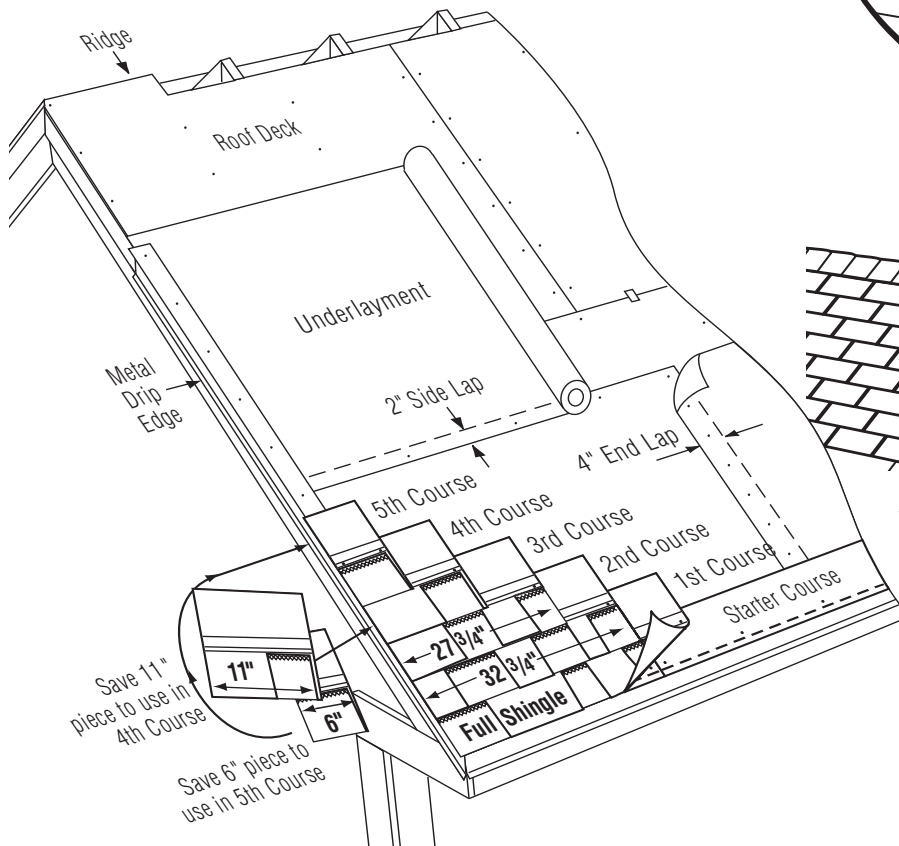

Figure 12-12: Applying the first 5 courses of Metric dimension. Note: The LandMark TL dimensions differ.
**1ST COURSE:** Apply a full shingle at the lower left corner of the roof. Make the lower edge and left edge lie flush with the edges of the starter course (Figure 12-12).
1. Cut 6" off the left end of the first shingle and save this piece for later use. Apply the 323/4" (34" for Landmark TL) long piece over and above the first-course shingle. Leave the bottom 55/8" tab portion of the first-course shingle exposed (Figure 12-12).